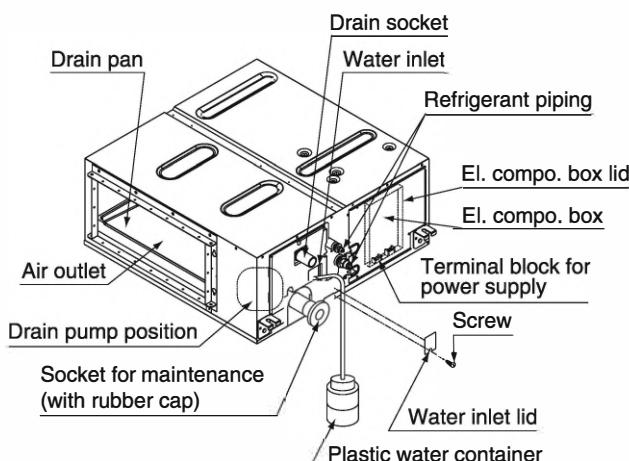

Fig. 15
- Gradually pour 1 liter of water from the inspection port at the bottom of the drain socket on the left side of the drain socket into the drain pan giving caution to avoid splashing water on the electric components such as drain pump and confirm drainage by operating the indoor unit under cooling mode according to **10. FIELD SETTING. (Refer to Fig. 15)**
3. Gradually pour 1 liter of water from the air outlet on the left side of the drain socket into the drain pan giving caution to avoid splashing water on the electric components such as drain pump. **(Refer to Fig. 15)**
- On the completion of the drainage check, refer to the following illustration, and use the provided large sealing pad (5) and heat insulate the metal clamp (1) and drain hose (2)